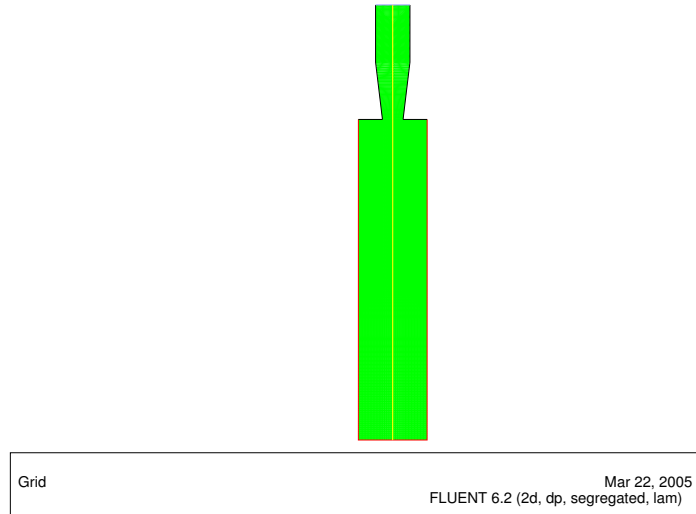

Figure 2: Grid Display of the Full Chamber
*The grid display of the chamber appears upright in the graphics window (Figure 2).*